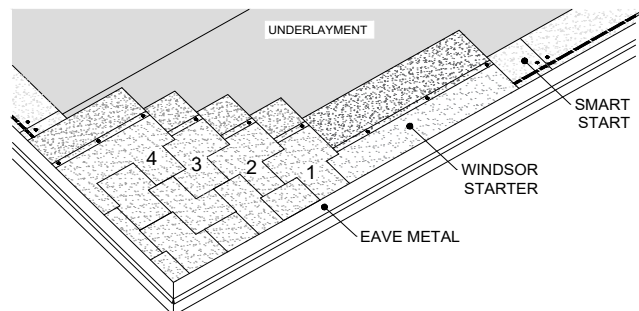

Figure 19 - Windsor® Shingle Layout Pattern with Smart Start® and Windsor® Starter Shingles
- d. Secure with fasteners. **(See Figure 19)**